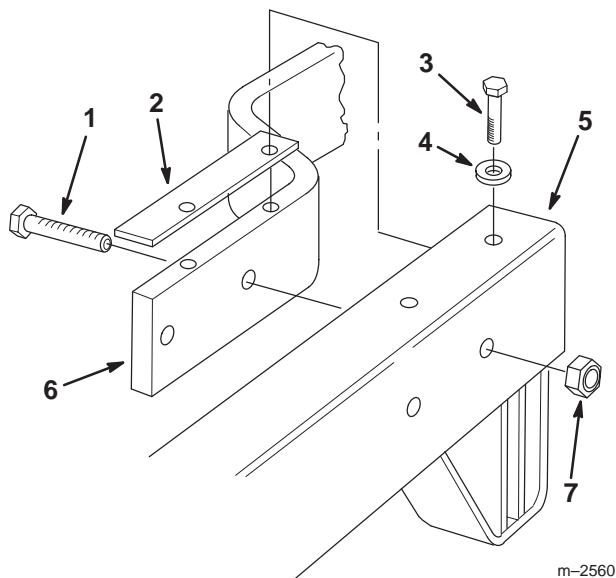

Figure 5
1. Attach the carrier frame to the traction unit frame with the 4 cap screws (3/8 x 1-3/4 in.) and locknuts (3/8 in.). Note that the locknuts must be on the outside of the carrier frame. Leave the locknuts loose to allow movement between the carrier and traction unit frames (Fig. 5).
2. Install the shims between the carrier frame and traction unit frame. Align the holes in the shims with the top holes in the traction unit and carrier frames (Fig. 5).
3. Install the 4 flange bolts (3/8 x 7/8 in.) with flat washers through the carrier frame and shims, and into the threaded holes in the top of the traction unit frame. Torque the flange bolts to 27–33 ft.-lb. (37–45 N•m) (Fig. 5).
4. Torque the 4 cap screws (3/8 x 1-3/4 in.) and locknuts (3/8 in.) to 27–33 ft.-lb. (37–45 N•m) (Fig. 5).